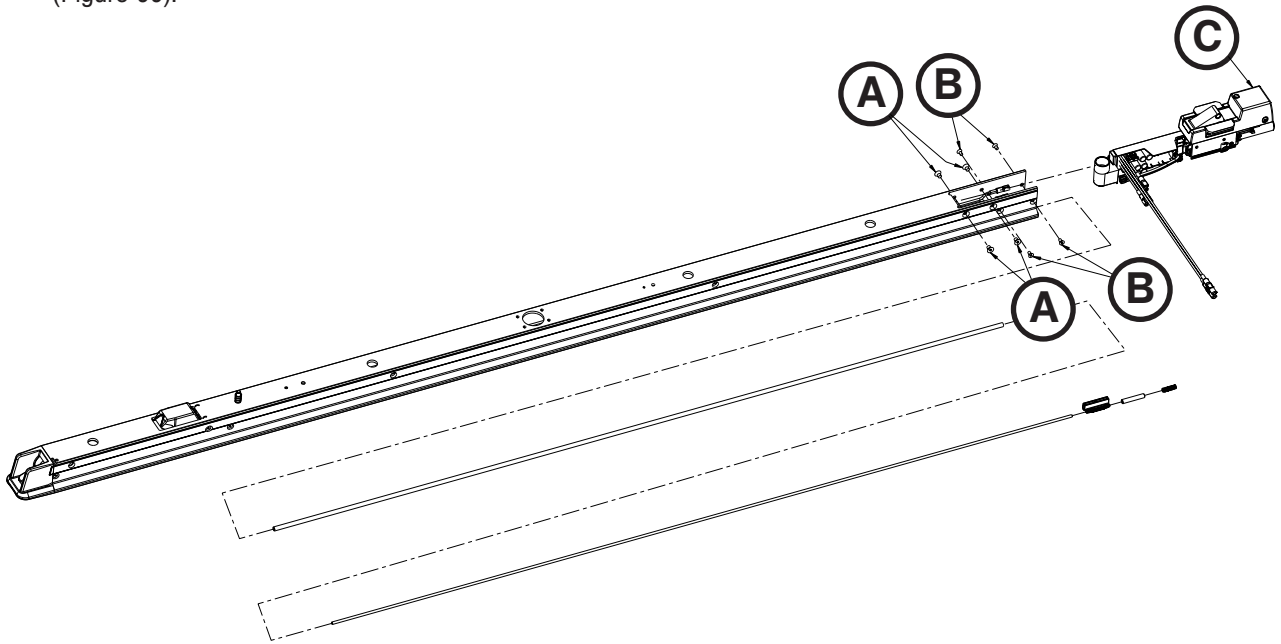

Figure 99
6. Using a 5/32" hex wrench, remove the four screws (A) (Figure 99).
7. Using two 1/8" hex wrenches, remove the four flat head cap screws (B) that secure the anchor pawl assembly to the anchor (Figure 99). Save all parts for reinstallation.
8. Carefully remove the anchor pawl assembly (C) from the anchor by pulling toward the head end of the anchor (Figure 99).